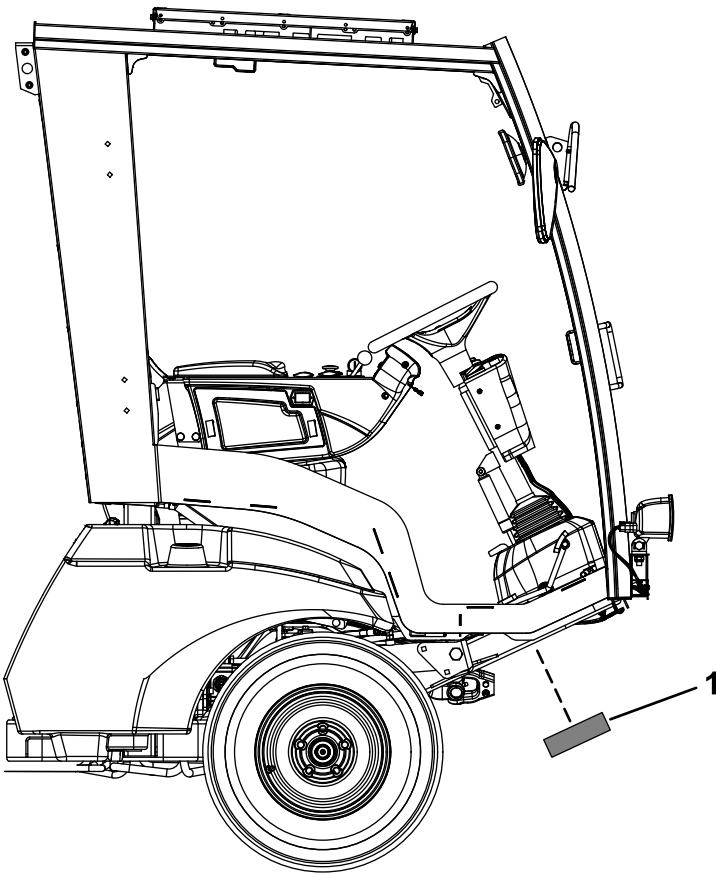

Figure 44
5. Install the plate to the frame (Figure 44).